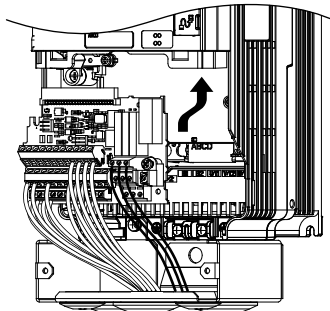

Figure 6.5 Install the Terminal Board
1. After wiring the main circuit, connect the terminal block to the drive as shown in **Figure 6.5**. Use the installation screw to fasten the terminal block into place.